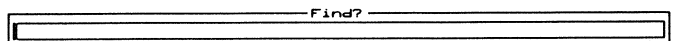

Figure 7-1. The **Find** entry box.
3. Select **FIND**. The **Find** entry box displays (figure 7-1).